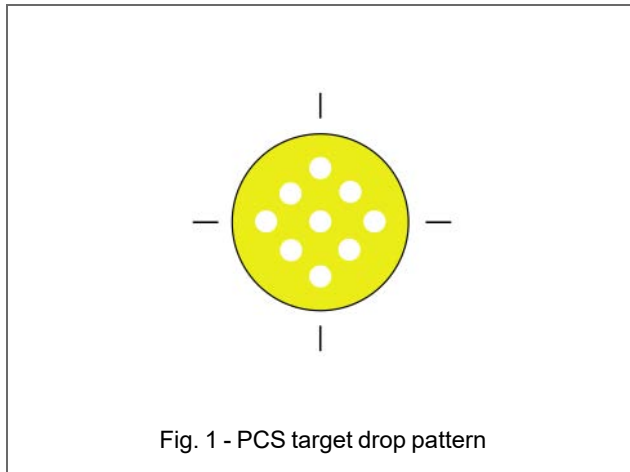

Fig. 1 - PCS target drop pattern
- In order to make the best use of the PCS, you can deposit several drops on each of the targets, as shown in Fig. 1. Refer to "PCS Card" on page 24 for specifications of the PCS.